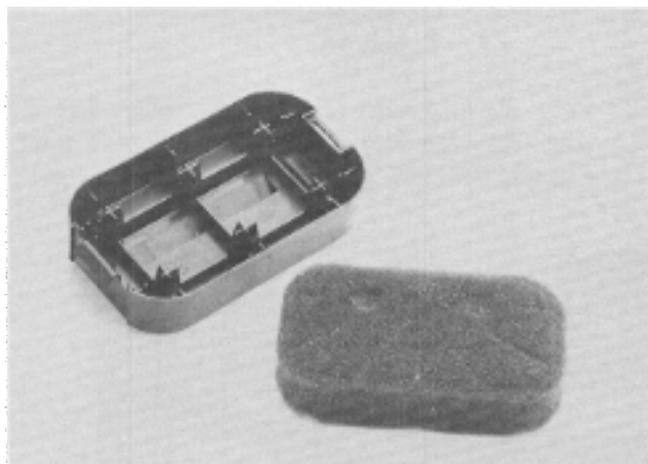

Figure 28
1. To remove the air filter, at the left side, snap the cover latch open, swing it to the right and unhook it. Remove the cover and air filter element (**Figure 28**).